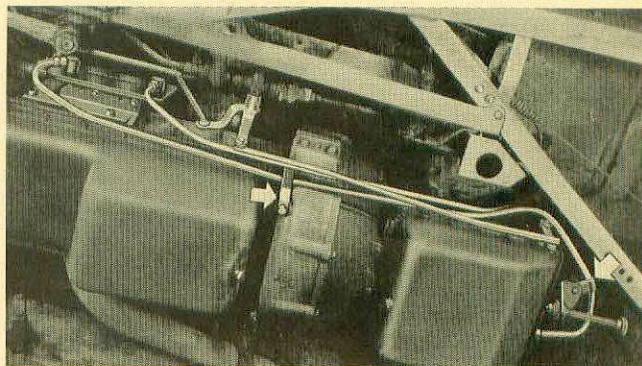

Fig. 3
- (d) Install the new tubes as shown in Figure 3. The curved section of the long tube must be inserted over the transmission rear stabilizer before attempting to line it up with the cooler. Start all the tube nuts; be very careful not to cross thread the nuts or adapters.
- (e) Install, but do not tighten the rubber lined tube clip as shown at the flywheel housing. Install the clip on the long tube at the rear where it passes over the stabilizer rod and secure it to the upper end of the stabilizer bolt on the left side of the front stabilizer bracket, Figure 3.